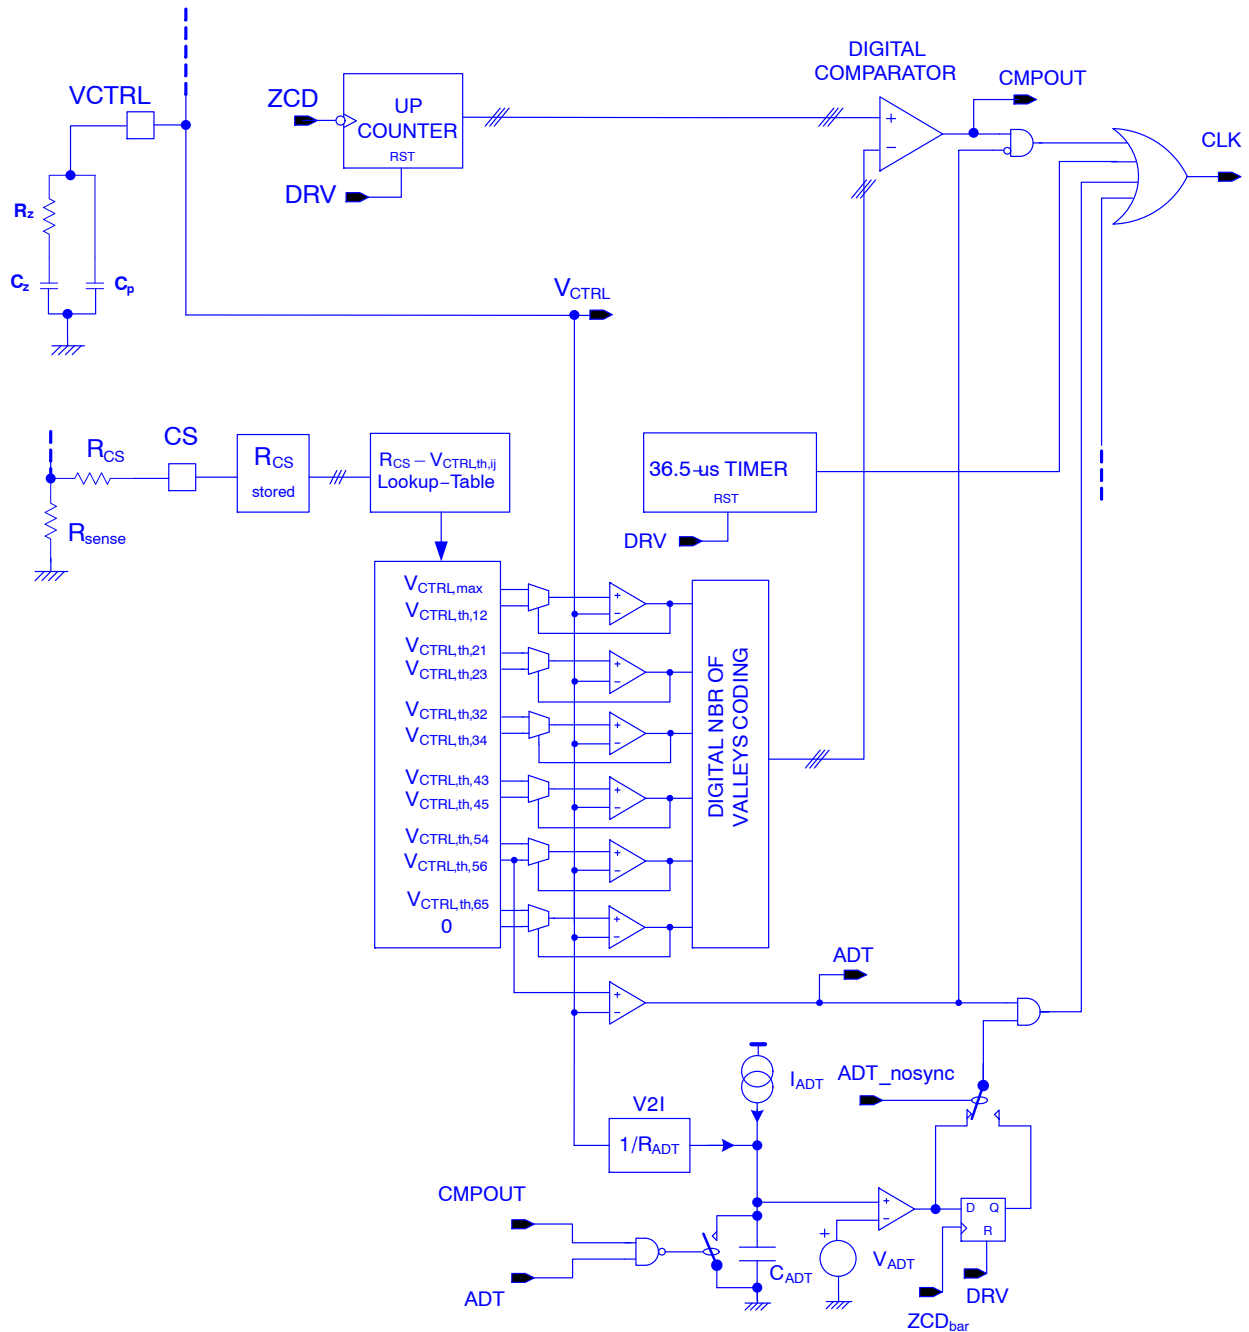

Figure 4. Valley Count Turn-on Block Diagram
- **Valley Count Frequency Fold-back:** NCL2801 is designed to drive PFC boost stages in so-called Valley Count Frequency Fold-back (*VCF*). In high load current condition, the circuit classically operates in *Critical conduction Mode (CrM)* also called 1st valley switching. When output power is decreasing, if a threshold is reached (determined by sensing the CS pin impedance during initial power up), a dead time based on a number of valleys is added. The number of valleys will increase, each time a dead time window (based on  $V_{CTRL}$  value) is entered. By construction, this counting process will avoid valley hopping during the mains voltage period. If the output power continues decreasing and the 6th valley is reached, extra “analog” dead time will be added based on a voltage ramp (see Figure 4). On-time will be synchronized with a valley. A timer will clamp the total switching period to not exceed 36.5  $\mu$ s (the switching frequency will never go under about 27.4 kHz). The switching frequency depends on output voltage, input voltage, and boost inductor value, and increases as the load power increases. Hysteresis is added to the  $V_{CTRL}$  control windows to avoid valley hopping during steady state conditions. *VCF* maximizes the efficiency at both nominal and light load. Similarly to *FCCrM* controllers, an internal circuitry allows near-unity power factor even when the switching frequency is reduced.
valleys between end of inductor demagnetization and power MOSFET turn-on determines the dead time value). After counting is done, the power MOSFET turns on at drain voltage valley. When 6th valley is reached and VCTRL voltage stays under 0.77 V, an extra “analog” dead time is added based on a voltage ramp (see Figure 4). The added analog dead time  $t_{ADT}$  is based on 0.77 V minus VCTRL value.  $t_{ADT}$  will be equal to zero when  $(0.5\text{ V} - V_{CTRL}) = 0\text{ V}$  and will increase monotonically versus VCTRL decreases while VCTRL is under the 0.77 V threshold corresponding to  $V_{CTRL,th,56}$ . The analog dead time added  $t_{ADT}$  will equal typically 20  $\mu\text{s}$  when  $V_{CTRL} = 0.5\text{ V}$ .
means of counting the falling edges of the ZCD signal until the counter reaches the number of valleys set by the window in which the VCTRL pin voltage is (see Figure 4). The 3-bit counter allows to work “Valley synchronized” up to six valleys. When the 6th valley is reached, and VCTRL is lower than 0.770 V ( $V_{CTRL,th,56} = 0.770$  V whatever frequency foldback threshold setting), an additional analog dead time will be added to the 6 valleys dead time and there will be valley synchronization turn-on of the power MOSFET ( $ADT\_nosync = 0$  by default) based on falling edge of ZCD signal. The total dead-time (number of valleys and extra analog dead-time) will not exceed 36.5  $\mu$ s. As a result of this timer the minimum switching frequency will not go under 27.4 kHz.
There will be a different DCM to CrM threshold than CrM to DCM making an hysteresis to avoid valley hopping (see Table 7 and Figure 4).
of Table 7 that  $V_{CTRL,th,56}$  which is the  $V_{CTRL}$  threshold at which we force counting six valleys, has always the same value. This threshold is also called  $V_{CTRL,ADT}$  because when  $V_{CTRL}$  pin voltage falls under this threshold, an analog dead-time starts to be added to the dead-time determined by counting six valleys. The lower  $V_{CTRL}$  pin voltage goes under  $V_{CTRL,ADT}$  threshold, the more analog dead time is added. An example on how the analog dead time can be added is shown in the circuit of Figure 4 and the correspond power MOSFET drain voltage is shown in Figure 3.